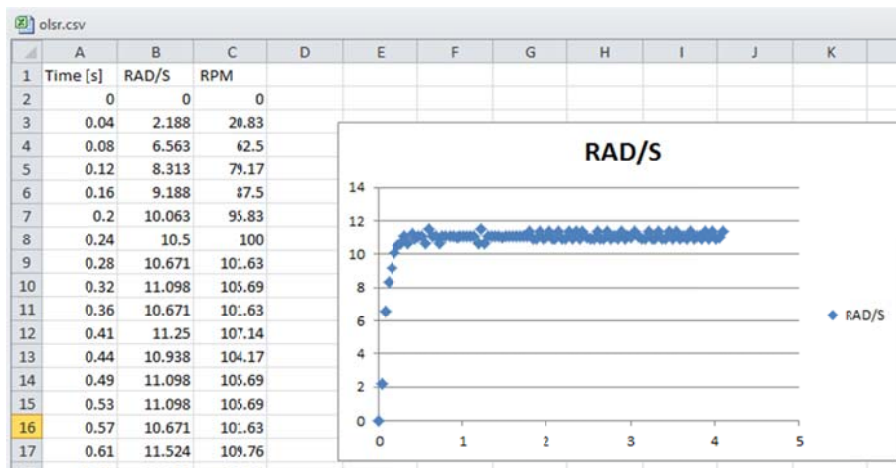

Figure 1: Open-Loop Step Response of a LEGO NXT motor
In class, the theory underlying a DC motor was presented. Briefly, a DC motor can be modeled as a first order system. Here, a step input (i.e. a constant voltage) is applied to the motor. The motor's rotational speed gradually reaches a steady-state value as depicted in **Figure 1** below. This lab demonstrates this phenomenon. CountTick is used to set the sampling time, and to calculate the time between changes in the motor's angle. The resulting speed (rad/s and RPM) are computed and saved as a file. XLS scatter plot (Figure 1 graph) shows the motor's first-order response.
Step 3: Refer to Concept 1 in the Lab entitled labBricxxFileHandling-102822a.pdf. Recall, one can use BrixCC's Tools- NXT Explorer to see the files in one's Brick. Click and drag the file `olsr.csv` to your laptop. Use Excel to open the file and create a scatter plot (like the one shown above in Figure 1).